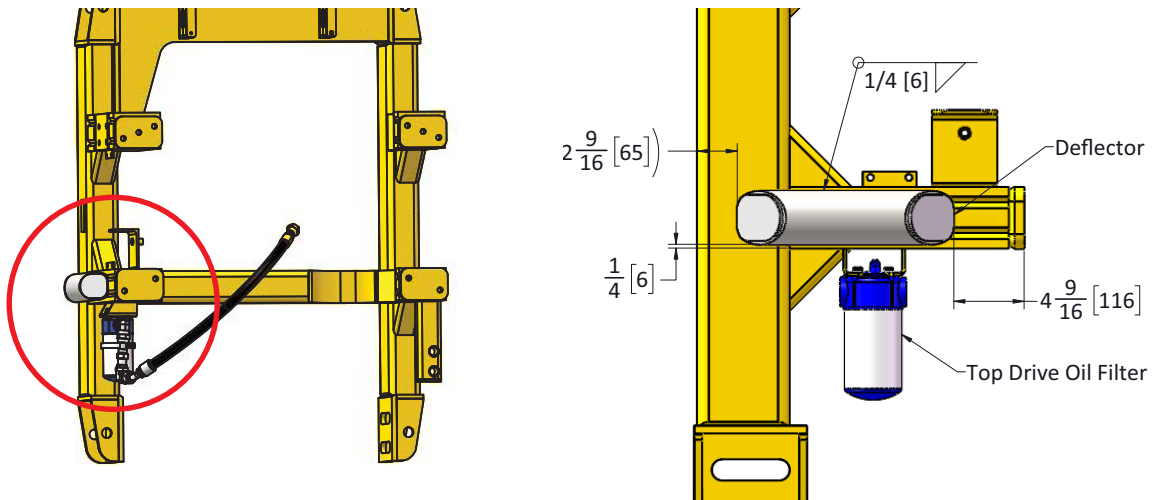

Figure 3: Deflector on 275T Top Drive Frame Base
3. Position the deflector as shown in Figure 3 on page 3 and weld all around using a E7018 low hydrogen welding rod.